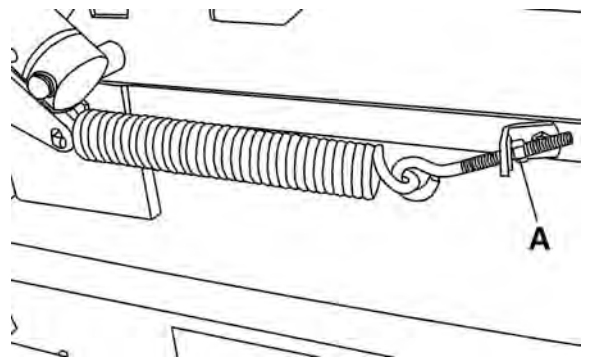

FIGURE 9
If adjustment should ever become necessary, lower the saw arm to the horizontal (down) position. Loosen hex. nut (A) Fig. 9 to increase the cutting pressure or tighten the hex. nut to decrease the cutting pressure.